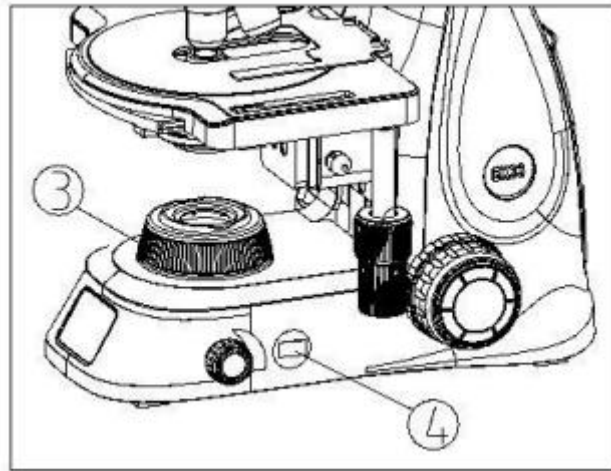

Figure 21
- 3) When in use, the surface of the condenser will become very hot. Ensure there is enough room around the condenser (③) for proper heat dissipation (see Fig. 21).